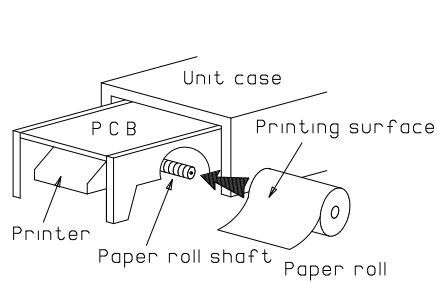

Figure 1
- 5.2.2 Set the paper roll on the shaft (See Figure 1). Since the outer and inner surfaces of the paper are different, set the roll so that the printing surface is the outer.